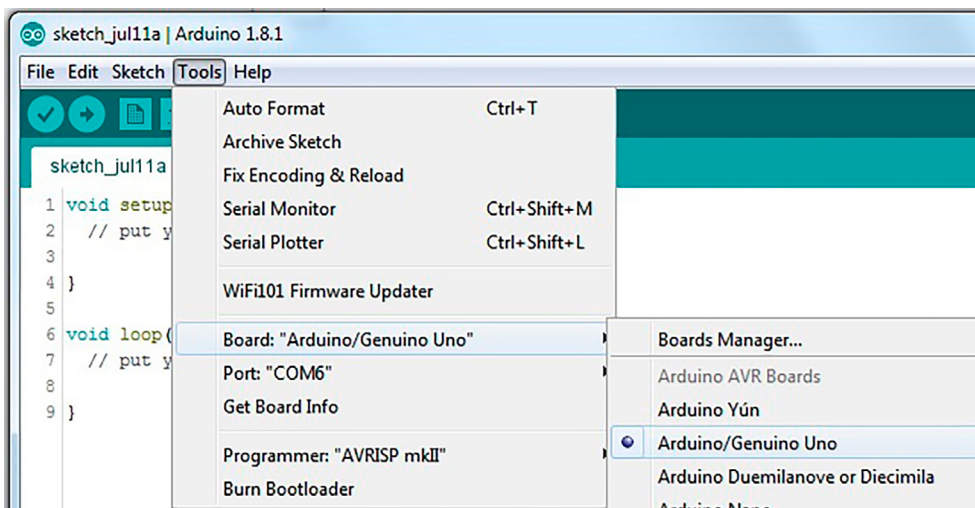

Figure 9. Selecting the Compatible Microcontroller Board
5. Select the correct Arduino compatible microcontroller board. Under the **Tools** menu, select **Board** → **Arduino/Genuino Uno** with the “•” black dot symbol (see Figure 9).